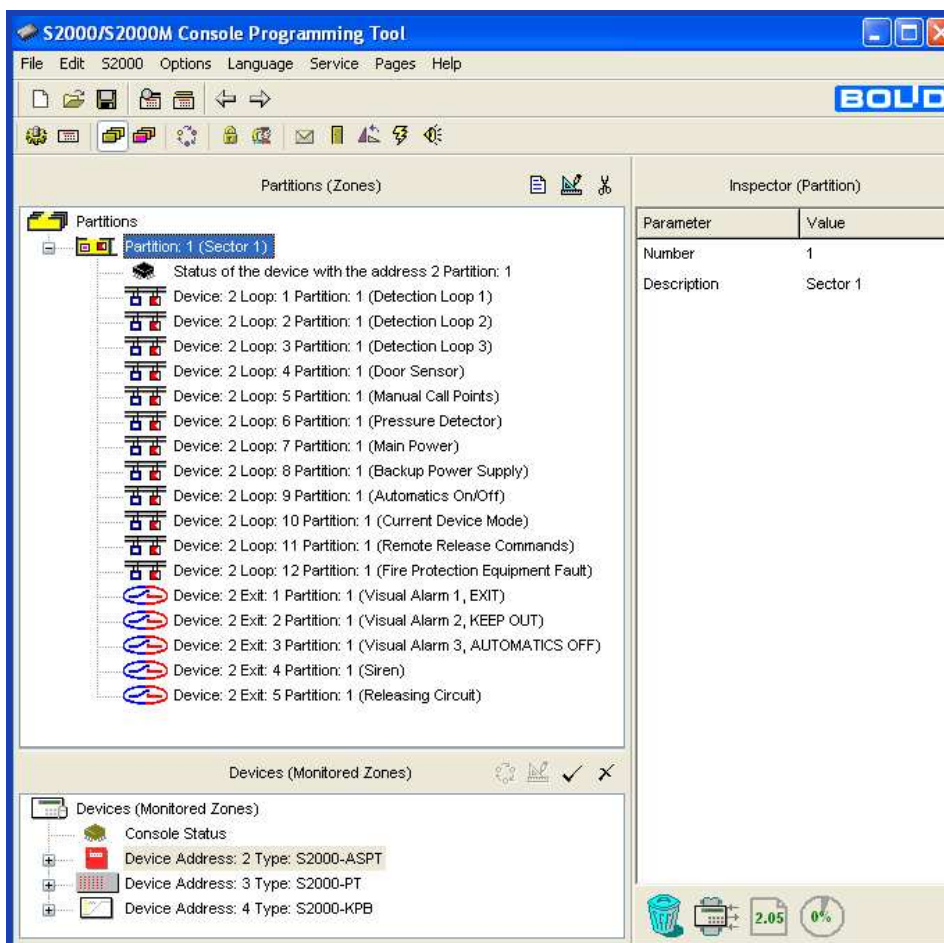

Figure 11
3. In the Partitions (Zones) window select the proper S2000-ASPT which will be assigned to the created partition, and drag and drop its descriptor to the upper window, on the partition descriptor (see Figure 11). All zones of the selected S2000-ASPT will be added to the partition.